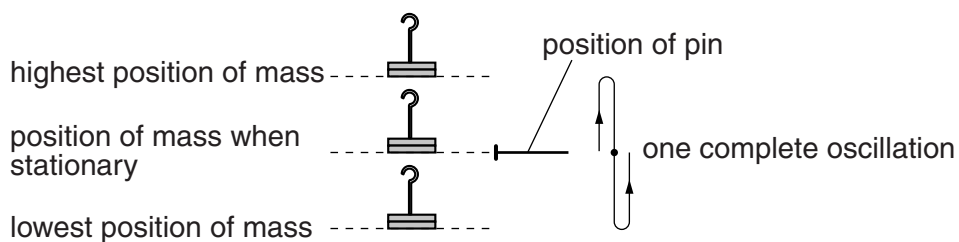

Fig. 1.2
- (c) The student adjusts the position of the lower clamp so that the pin is level with the bottom of the mass when the mass is not moving. She pulls the mass down a short distance and releases it so that it oscillates up and down. Fig. 1.2 shows one complete oscillation.